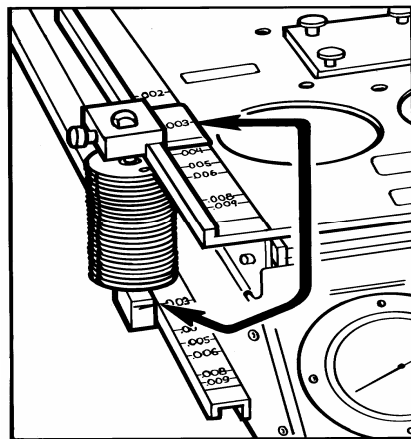

Figure 2—Compliance Spring Setting
*Please see Figure 2 for compliance spring setting*